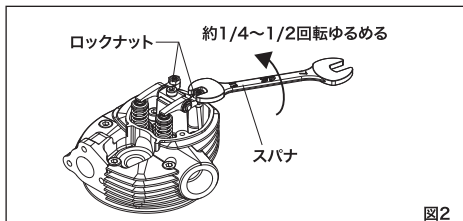

図2
1. Carefully loosen the locknut on rocker-arm 1/4-1/2 turn with 5.5mm wrench. (Fig.2.)